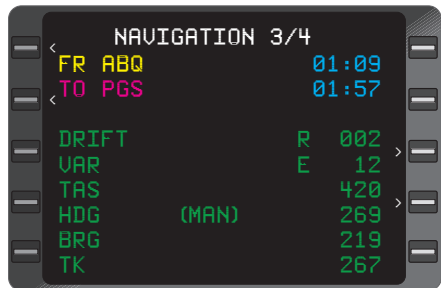

Figure 3-189
4. **ENT** Key - DEPRESS. **(MAN)** will appear adjacent to the **HDG** field. (Figure 3-189)